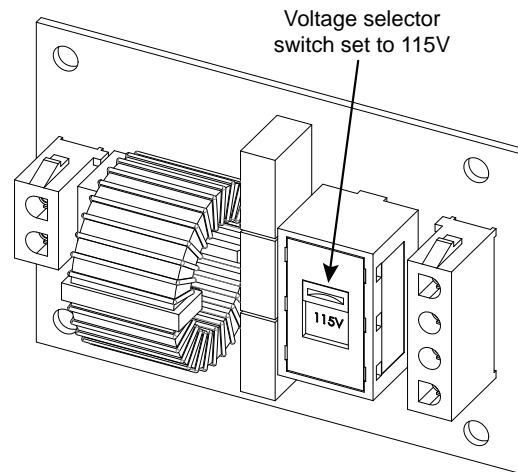
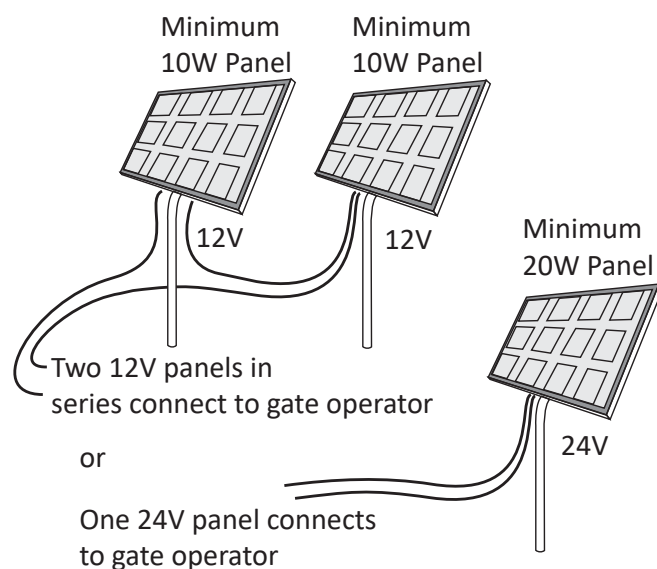

Figure 24. 208/230VAC Voltage Selector Switch
Figure 25. Solar Panels
- 20 WATT solar panel system (minimum requirement). See Figure 24 and "Figure 25. Solar Panels Wiring Connection" on page 37.
1. Use 14 gauge wire or larger to connect the solar panel(s) within 100ft of the operator. Check NEC and local regulations if other distances apply. See Figure 24.
2. Use one 24VDC solar panel or two 12VDC solar panels in series with a total capacity of at least 20W. Mount them according to the manufacturer's installation instructions. See Figure 24.
3. Make sure both DC power switches on the SlideSmart control box are in the OFF position, and then remove the two Phillips head screws that secure the 24VDC cover to the junction box. See Figure 25.
4. Wire nut or crimp bond the solar panel wires to the black and red input wires. See Figure 25.
5. Wire nut or crimp bond the equipment ground wire to the green ground wire in the junction box. See Figure 25.